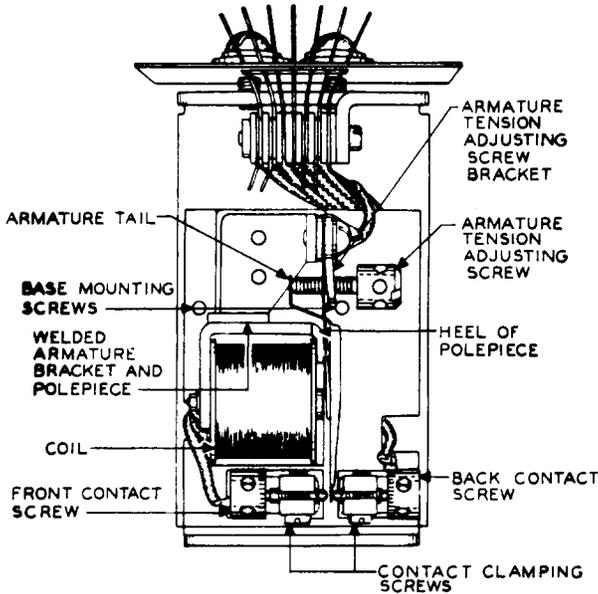

Fig. 3 - 267-type and D-175787 Relays Equipped With Welded Armature Bracket and Pole Piece - Top View
3. To add a new figure. (Fig. 3)
9. To amplify a procedure for meeting the electrical requirements [3.07 and 3.08 (3)].